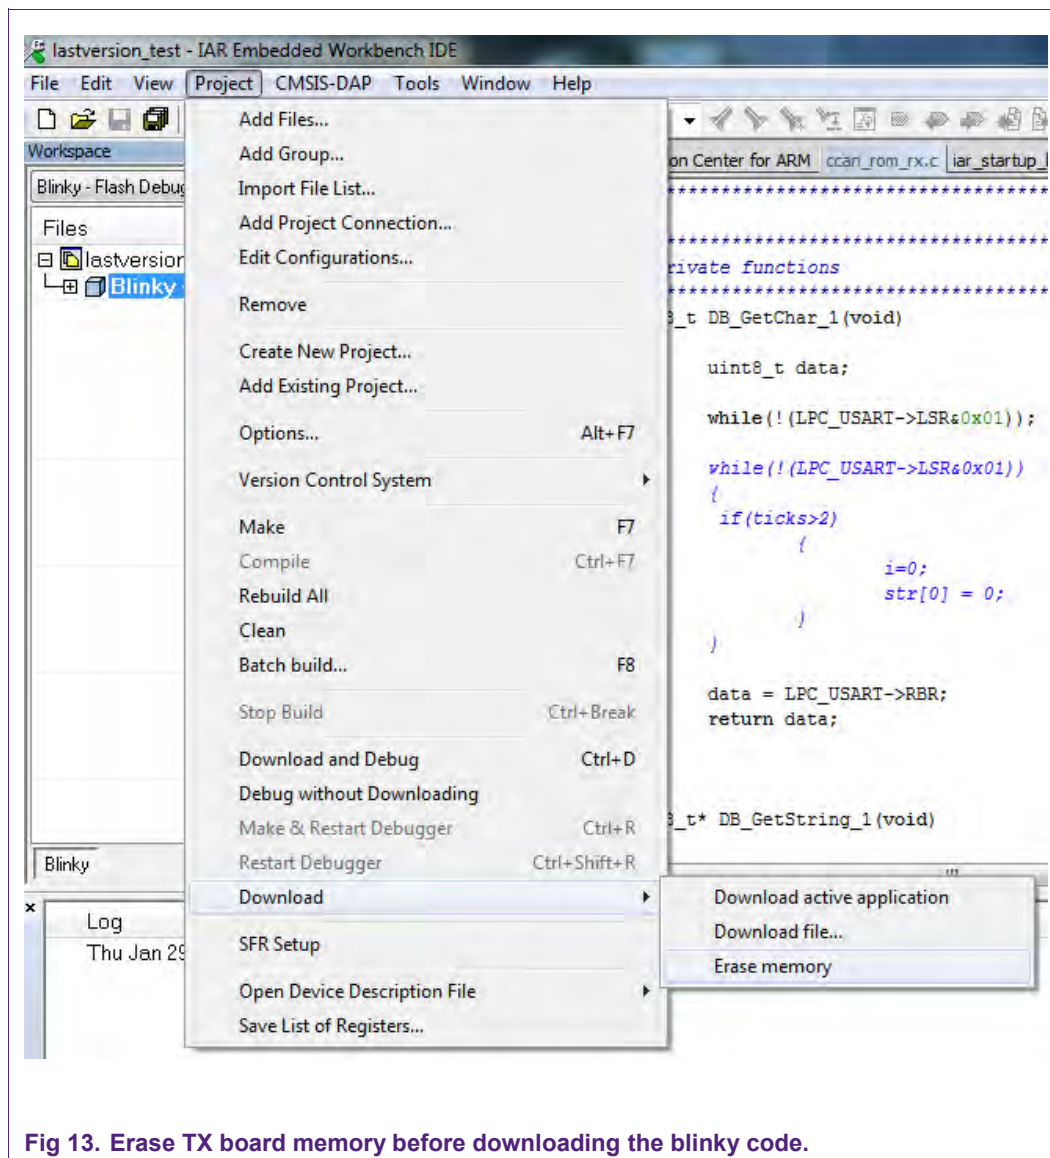

Fig 13. Erase TX board memory before downloading the blinky code.
- 1) Erase TX board's memory before downloading the blinky project, see Fig 13.
- 7) Erase RX board's memory before downloading the RX code, see Fig 13.